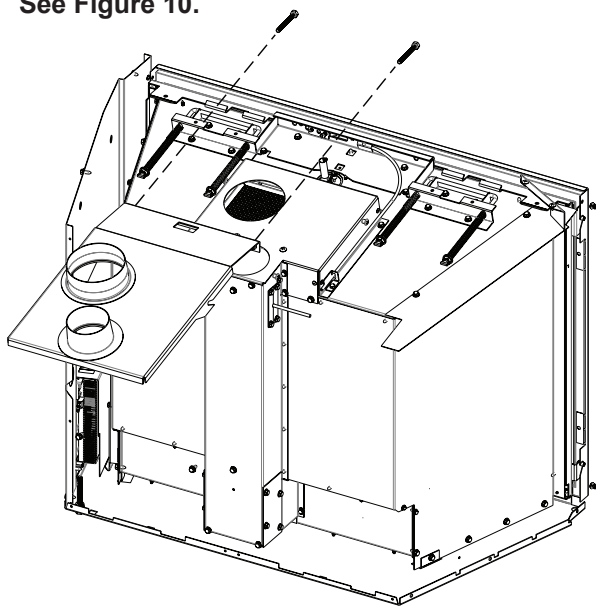

Figure 10
13. Re-attach slide plate with 2 bolts, you may choose to do this step at a later time. This will depend on your install. **See Figure 10.**